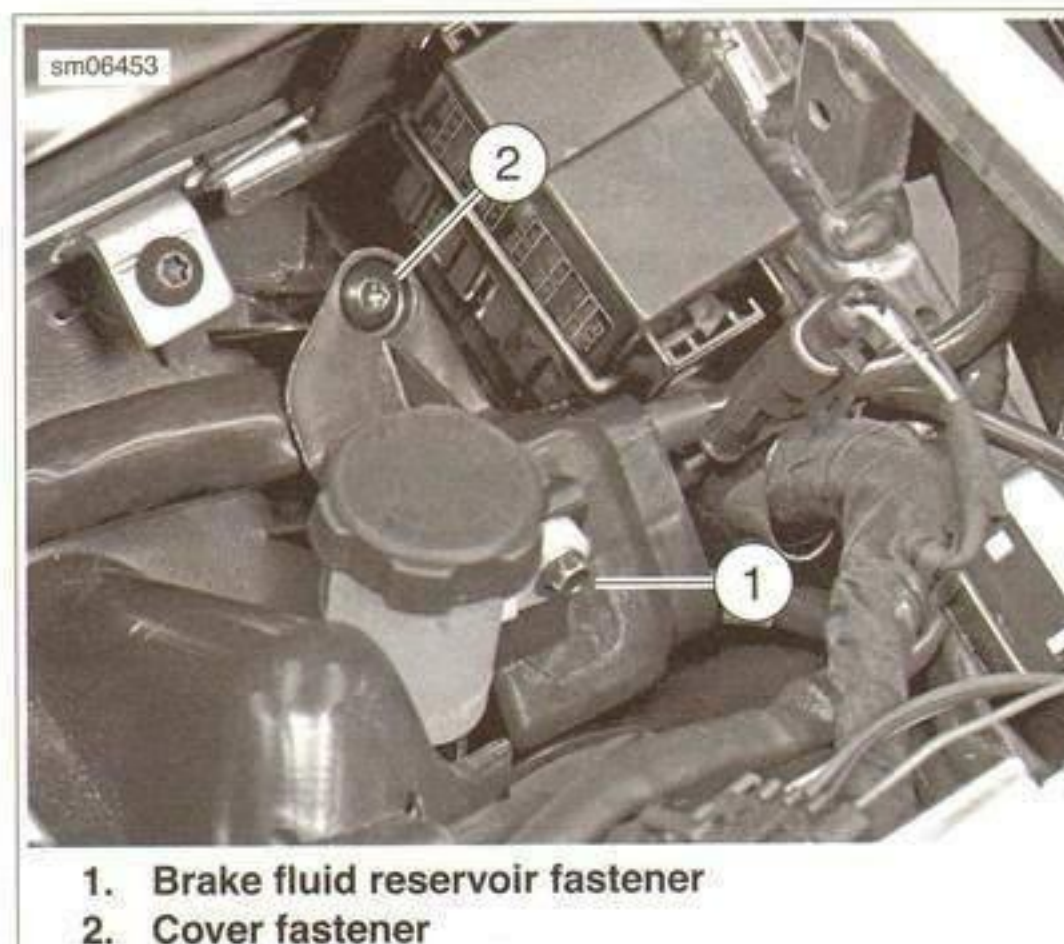

Figure 7-20. Solenoid Cover
4. See Figure 7-20. Remove the brake fluid reservoir.